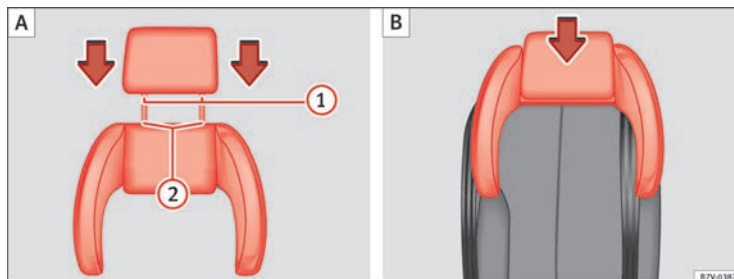

Fig. 30 Integrated child seats, position the head restraint over the side head restraint (A) and fit into place (B).
- Insert the guide rods  $\Rightarrow$  fig. 30 (1) of the head restraint into the guides on the side head restraint (2).
- Insert the head restraint and the side head restraint into the guides on the corresponding backrest (B).